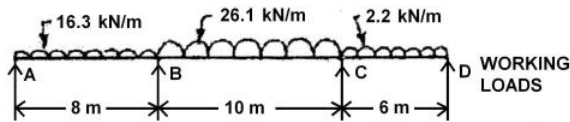

Fig. 1
1. A continuous beam has the spans and working design loads as shown in Fig. 1. Design a beam with cover plates where necessary. (20)